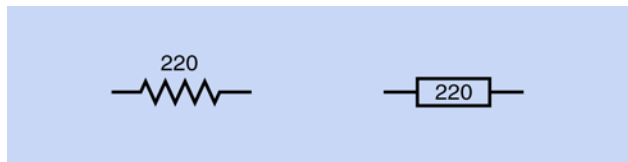

Figure 2-44 Symbol for a resistor in the United States (left) and Europe (right).
3. Resistor. Only two variants of the symbol for a resistor exist, shown in Figure 2-44. The symbol on the left is used in the United States, with a number beside it indicating its resistance in ohms. Alternatively the resistor may be identified as R1, R2, R3 . . . with a separate parts list showing the values. The righthand symbol in Figure 2-44 originated in Europe, and here again the number is the value of the resistor in ohms. The value of 220 ohms in the figure was selected arbitrarily.